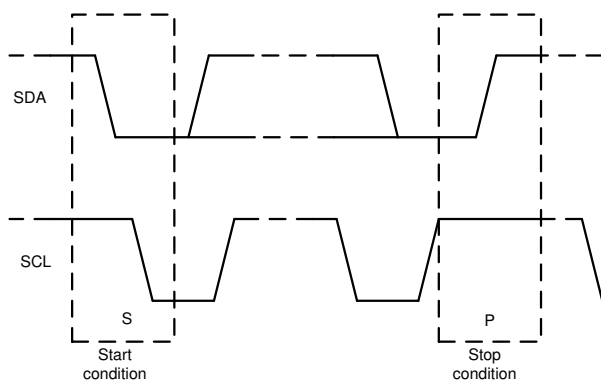

Figure 7-14. Start and Stop Conditions
1. The controller initiates data transfer by generating a start condition. The start condition is when a high-to-low transition occurs on the SDA line while SCL is high, as shown in Figure 7-14. All I²C-compatible devices recognize a start condition.
4. To signal the end of the data transfer, the controller generates a stop condition by pulling the SDA line from low-to-high while the SCL line is high, as shown in Figure 7-14. This action releases the bus and stops the communication link with the addressed target. All I²C-compatible devices recognize the stop condition. Upon receipt of a stop condition, the bus is released, and all target devices then wait for a start condition followed by a matching address.